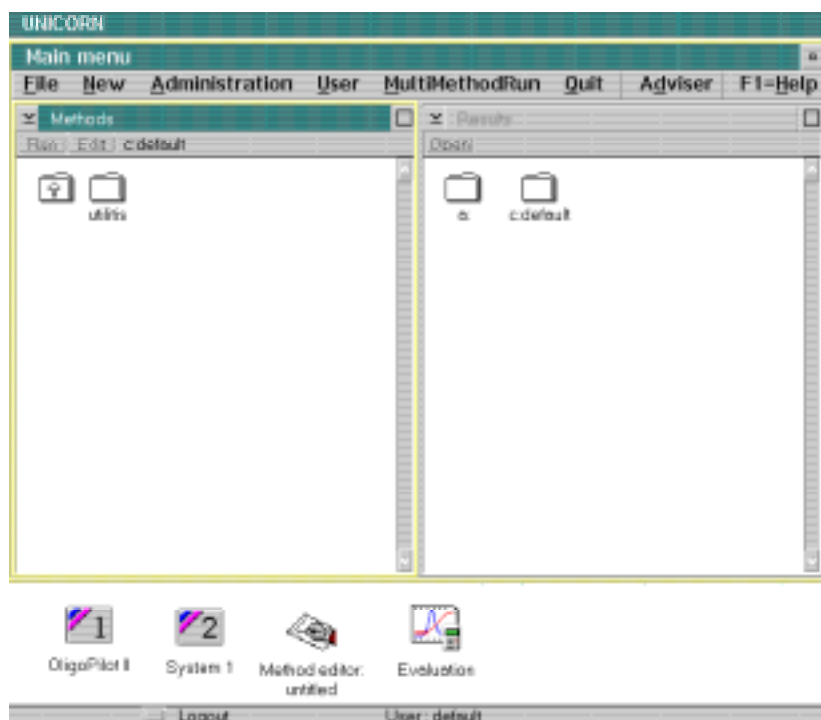

Figure 2-1. UNICORN OS desktop with the Main menu shown as a window and the other modules as icons.
These modules are represented by either windows or icons on UNICORN OS desktop (see Figure 2-1). UNICORN OS desktop itself occupies the entire screen. According to how the software is installed, you may be able to minimize UNICORN OS to allow access to other programs on the OS/2 desktop.
- Application program windows (including UNICORN OS) have a **menu bar** with menu commands (see Figure 2-1). Click on a menu item or press <Alt> followed by the underlined letter in the item to open the menu. Click on a command in the menu or press the underlined letter in the command to activate the command.
UNICORN OS Main menu interface divides user files into two categories, for methods and results (see Figure 2-1). Only directories to which the current user has access are shown in the Main menu panels.